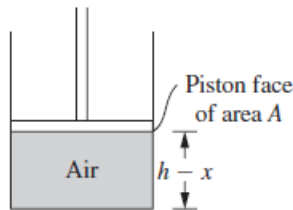

Figure P1.16
1.16 An air spring consists of a piston moving in a cylinder of compressed air. When the piston is in equilibrium, the height of the column of air is h and it exerts a pressure p_0 on the face of the piston. The area of the face is A . When the piston moves a distance x downward, as illustrated in Figure P1.16, the air is further compressed. The process is assumed to be isentropic so that the air pressure is related to its density by